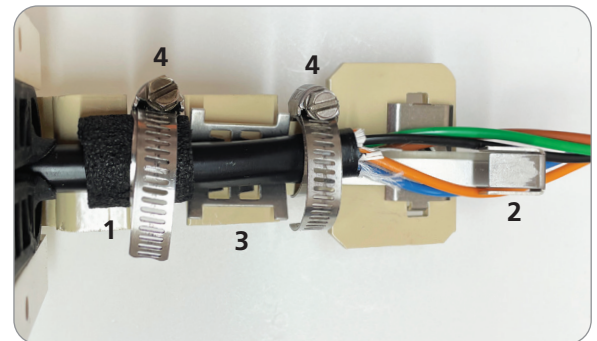

Figure 11
For Cables with a Central Strength Member (Figure 11)
1. Apply a layer of adhesive foam to the cable sheath at the lower hose clamp location (#1 in Figure 11).
2. Trim central strength member to 1.5–1.75" so it extends to the strength member stop on the spur bracket (#2 in Figure 11).
3. Position spur bracket under the cable, in between hose clamp locations (#3 in Figure 11).
4. Secure cable to the bottom plate bracket and spur bracket with the hose clamps. Hand-tighten hose clamps with a 1/4" hex-head tool (#4 in Figure 11).